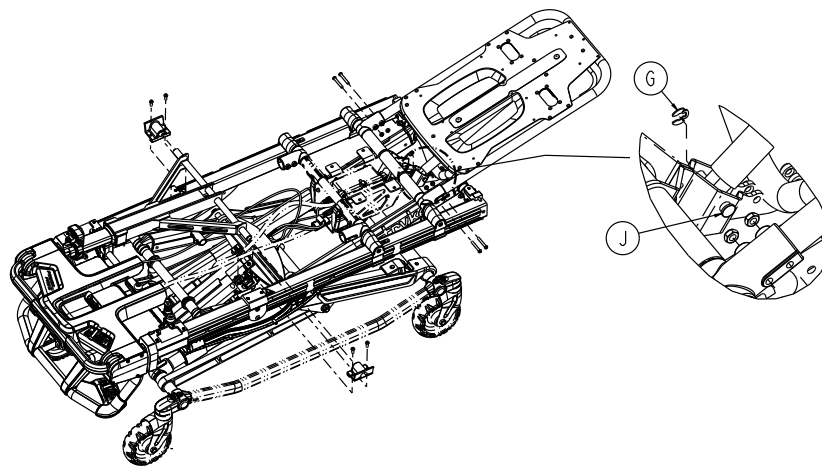

Figure 17 – Remove the truarc ring and Fowler cylinder pin
6. Using a small slotted screwdriver, remove the truarc ring (G) and Fowler cylinder pin (J) that secure the bottom of the gas cylinder to the mount (Figure 17). Save the truarc ring and Fowler cylinder pin.